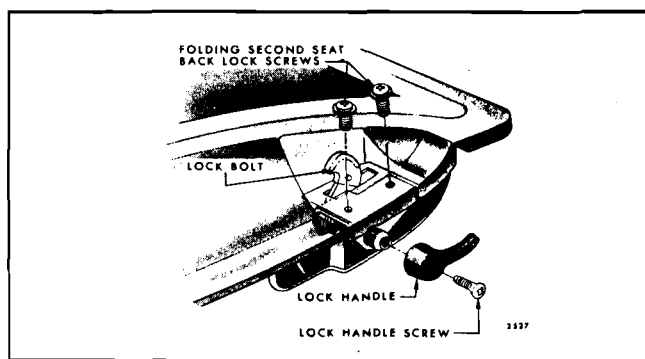

Fig. 15-81—Folding Second Seat Back Lock Installation - All "A & B" Station Wagons (Except Vista Cruiser and Sport Wagon Styles)
2. Remove seat back lock handle attaching screw (Fig. 15-81) and remove lock handle.
3. Remove seat back lock attaching screws (Fig. 15-81) and remove seat back lock from seat back panel.